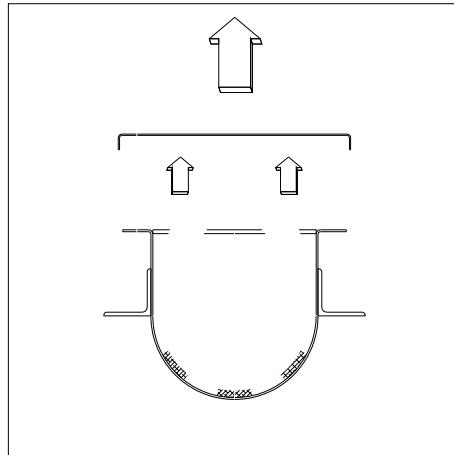

Figure 2.5.2h - Taking off the Cover, Removing the Spiral
3. Remove the spiral from the trough or lift it to increase accessibility (fig 2.5.2h).